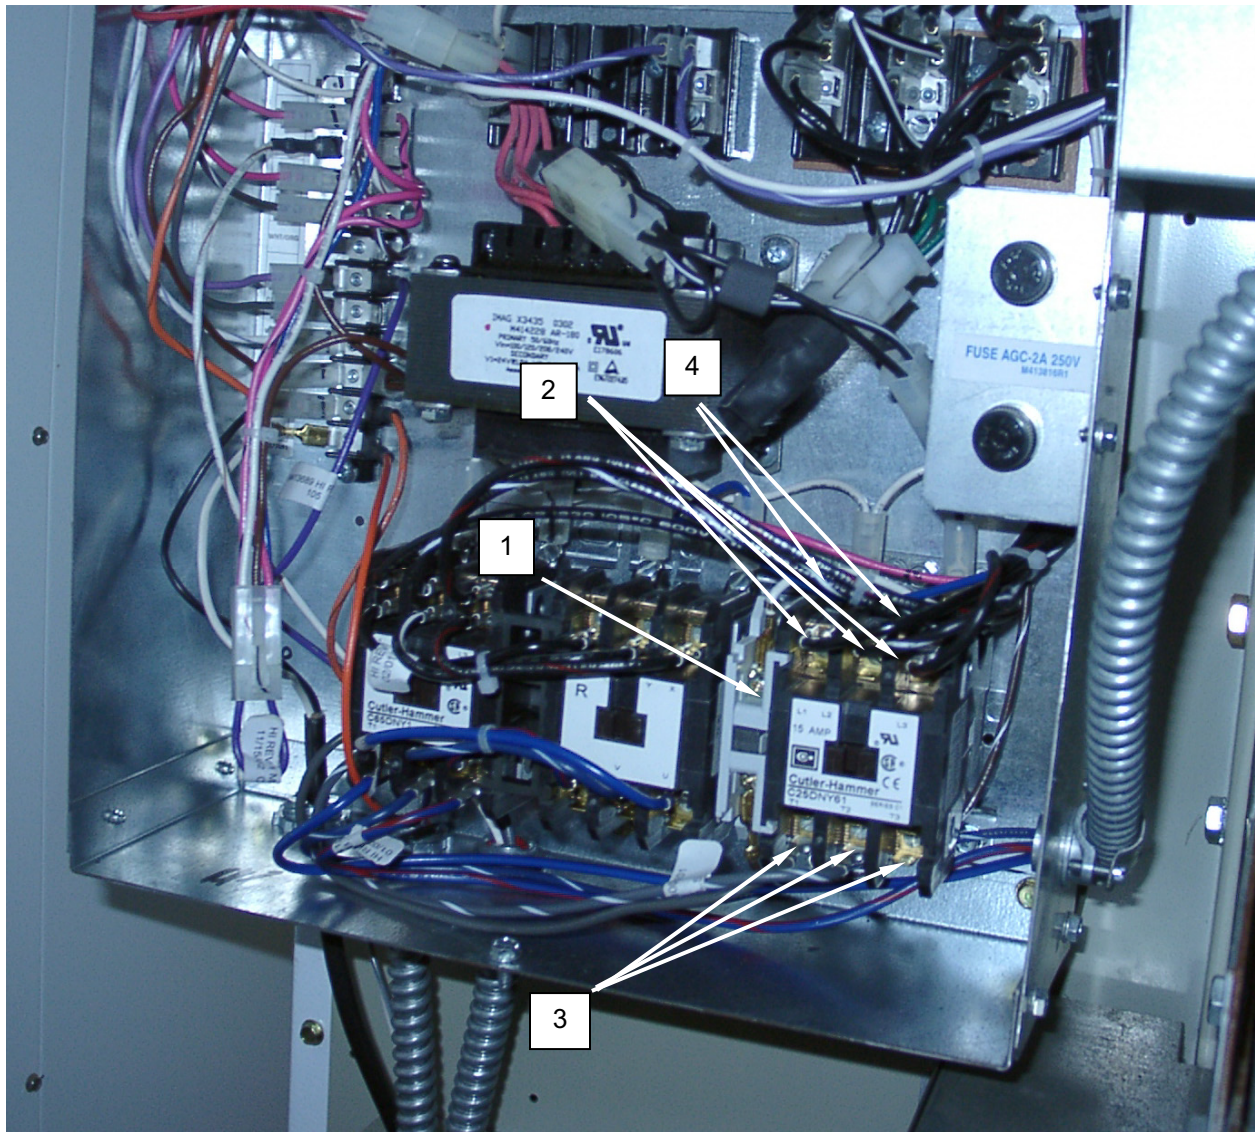

Figure 1. Test the Fan Contactor.
5. Check for 210 VAC across primary terminals L1, L2, and L3 (**Figure 1, Item 2**). If no voltage is present, refer to WP 0010 for dryer troubleshooting procedures.
6. Use a voltmeter to check for 210 VAC across secondary terminals T1 and T2 (**Figure 1, Item 3**).
8. Disconnect the white and red wires (**Figure 1, Item 4**) from the contactor control circuit, and use an ohmmeter to test for 3 to 5 ohms across the two terminals. Replace an open contactor.
9. Reconnect the white and red wires (**Figure 1, Item 4**) to the contactor control circuit terminals.